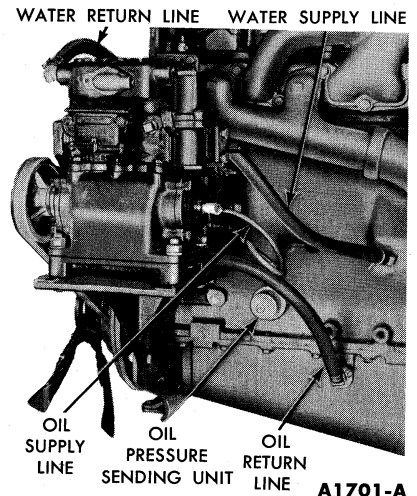

FIG. 7—Air Compressor Oil and Coolant Lines—Ford Diesel
4. Disconnect the water supply and return lines at the air compressor (Fig. 7).
5. Disconnect the oil supply and oil return lines at the air compressor (Fig. 7).
2. Connect the oil supply and return lines to the compressor (Fig. 7).